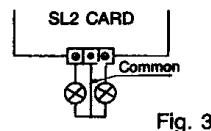

Fig. 3
- 4.C) This card has a three-poles terminal; central pole must be connected to the blue wire (common) of the two lamps; the other two pole terminals must be connected to the back wire of the lamps (see fig. 3).